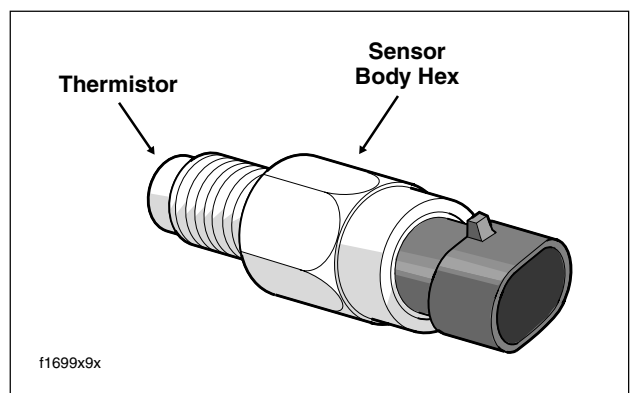

Figure 9-8. Engine Temperature Sensor
- Slide a 3/4 inch deepwell socket over the sensor body hex and turn counter-clockwise to loosen. See Figure 9-8. When sensor turns easily, pull out the deepwell socket and remove sensor by hand.